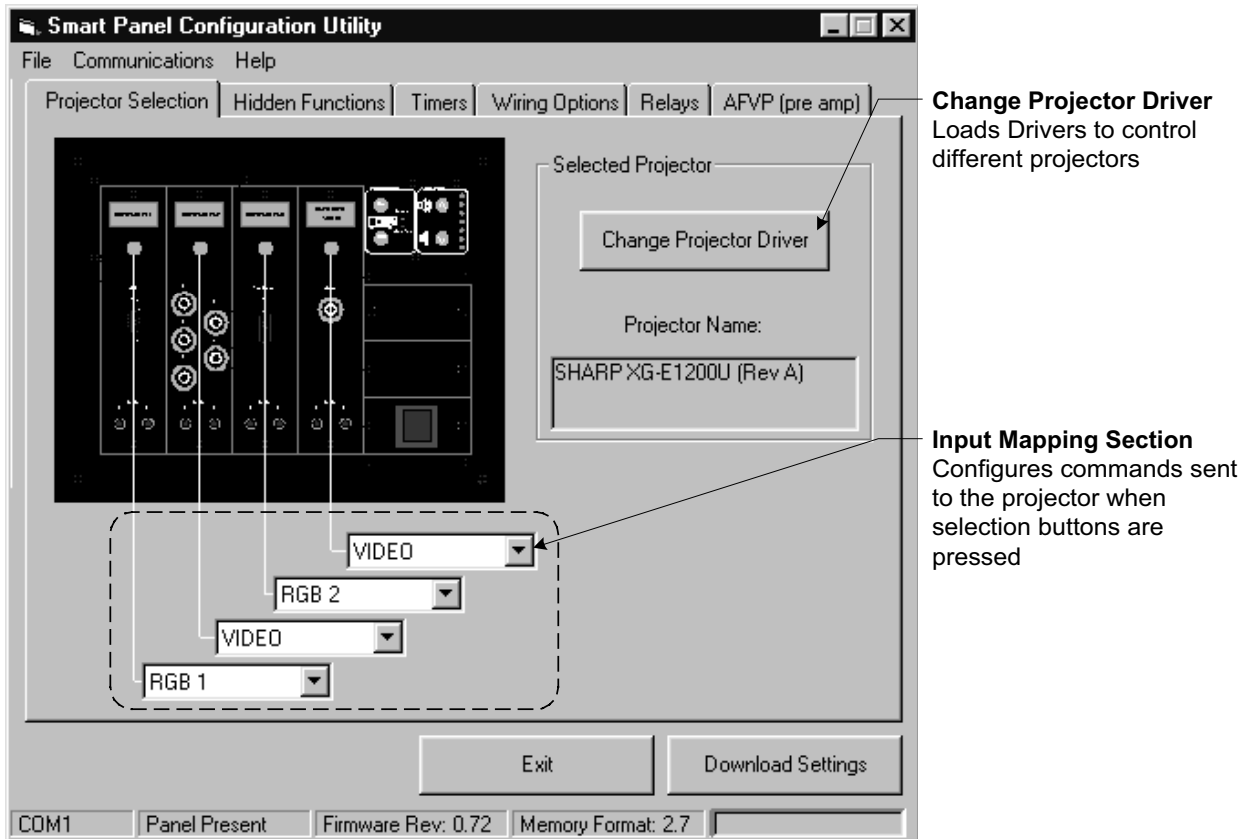

Figure 8: Input Mapping and changing the Projector Driver
- Press the **Change Projector Driver** button in **Projector Selection** (as shown in **Figure 8**).
- wait for the Driver file to load into the Utility, as shown in **Figure 8**;
In this example, you configure your Panel input mappings for an installation using a Sharp XG-E1200U. You map input one to *RGB 1*, input three to *RGB 2*, and inputs two and four to *VIDEO* as shown in **Figure 8**.